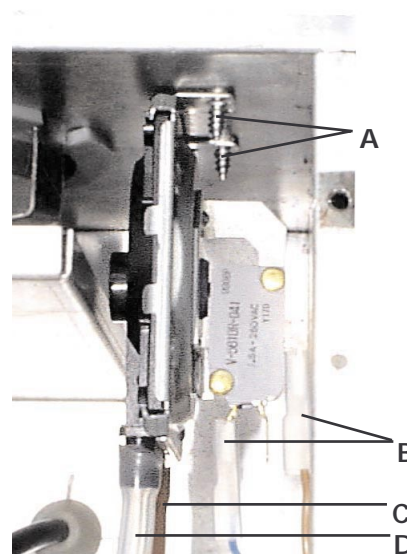

Fig. 28
7.05 Air pressure switch (fig. 28)